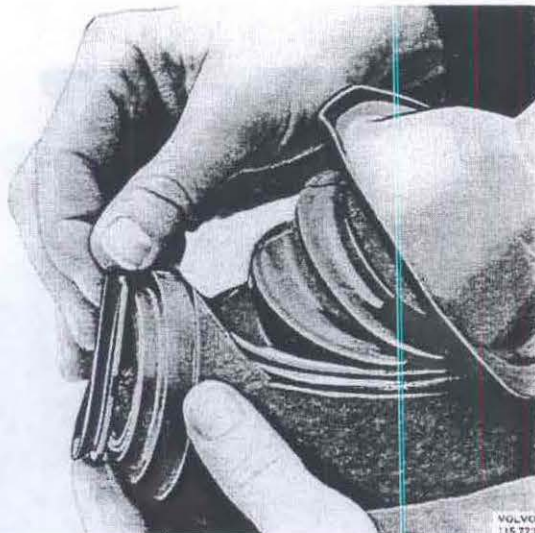
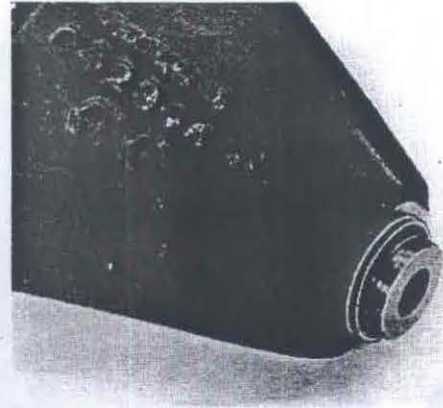

Fig. 46-104. Fitting the seal
Fig. 46-105. Fitting the seal
7. Replace the upper seal on the wheel carrier housing, Fig. 46-104, and the seal on the support Fig. 46-105. Fit the support on the wheel carrier housing.